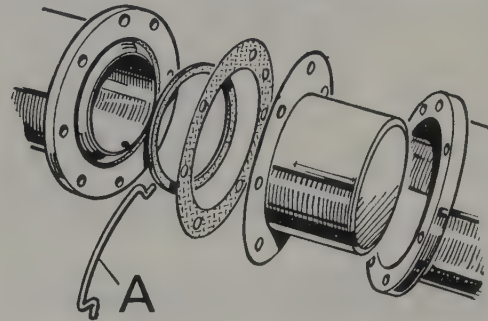

Fig. 11.11. Retaining clip (A) for de Dion tube
- 11 Extract the retaining clip "A" (Fig. 11.11) from the left-hand end of the inner tube.